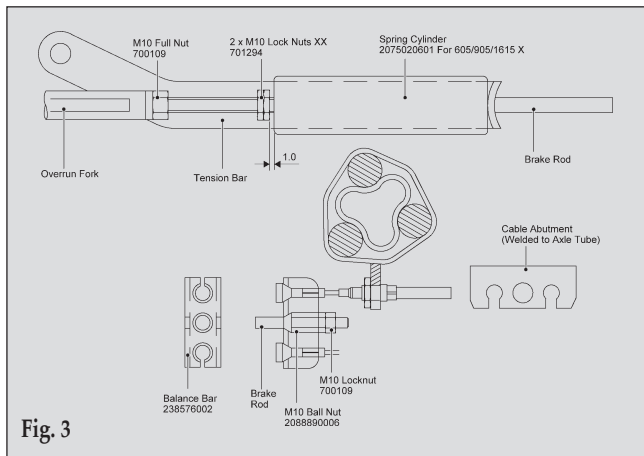

Fig. 3
- x. Ensure the balance bar (compensation) is being pulled evenly. This bar (double on tandem axles) should always be paralleled with the axle tube when pulled (figs. 1 & 3). Adjust M8 lock and ball nuts, if necessary, to achieve correct parallel position (fig. 3).
Over adjustment to the long ball nut (Fig 3), could induce movement of the inner brake cable, reducing the effective clearance of the brake shoes. If the over run lever will not make contact, it is possible the two lock nuts, forward of the spring cylinder, are incorrectly adjusted. Loosen the nuts and adjust the brake rod as above (Figs 1 & 3).
- xiii. Adjust the two locking nuts, forward of the spring cylinder (fig. 3), (on some chassis a single Nyloc nut is used) to give 1mm of clearance on the spring cylinder. This cylinder (the energy store for the handbrake operation) must be able to rotate only, not slide on the brake rod.
(See Fig. 3). If the overrun assembly is fitted with a gas strut handbrake then no spring cylinder is fitted - therefore ignore this paragraph).